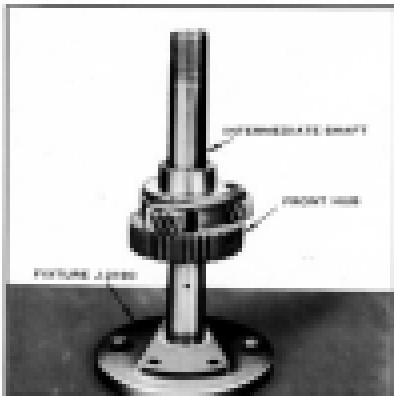

Fig. 598. Position Shaft in Reverse Pin
3. Remove unit from vise and place into holding fixture with hub down. (Fig. 598)
9. Slide planet gear, needle bearings, thrust washer and tool J-2144-2 into position in hub, aligning hole in hub with hole in planet gear. (Fig. 598)